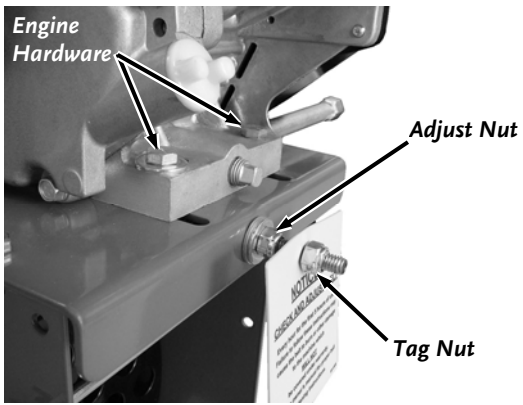

Figure 16
5. Loosen the four Engine Bolts using two 1/2" Wrenches (**Figure 16**).